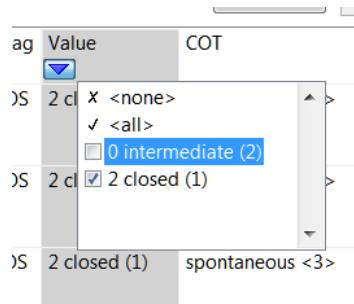

Figure 47 Filter menu
In order to filter on a column value, move the mouse over the respective column and press the appearing **Filter button**. The Filter menu for this column is opened. It is shown in Figure 47.
The list shown in the Figure 47 will only show Telegrams with value “2 closed (1)”.